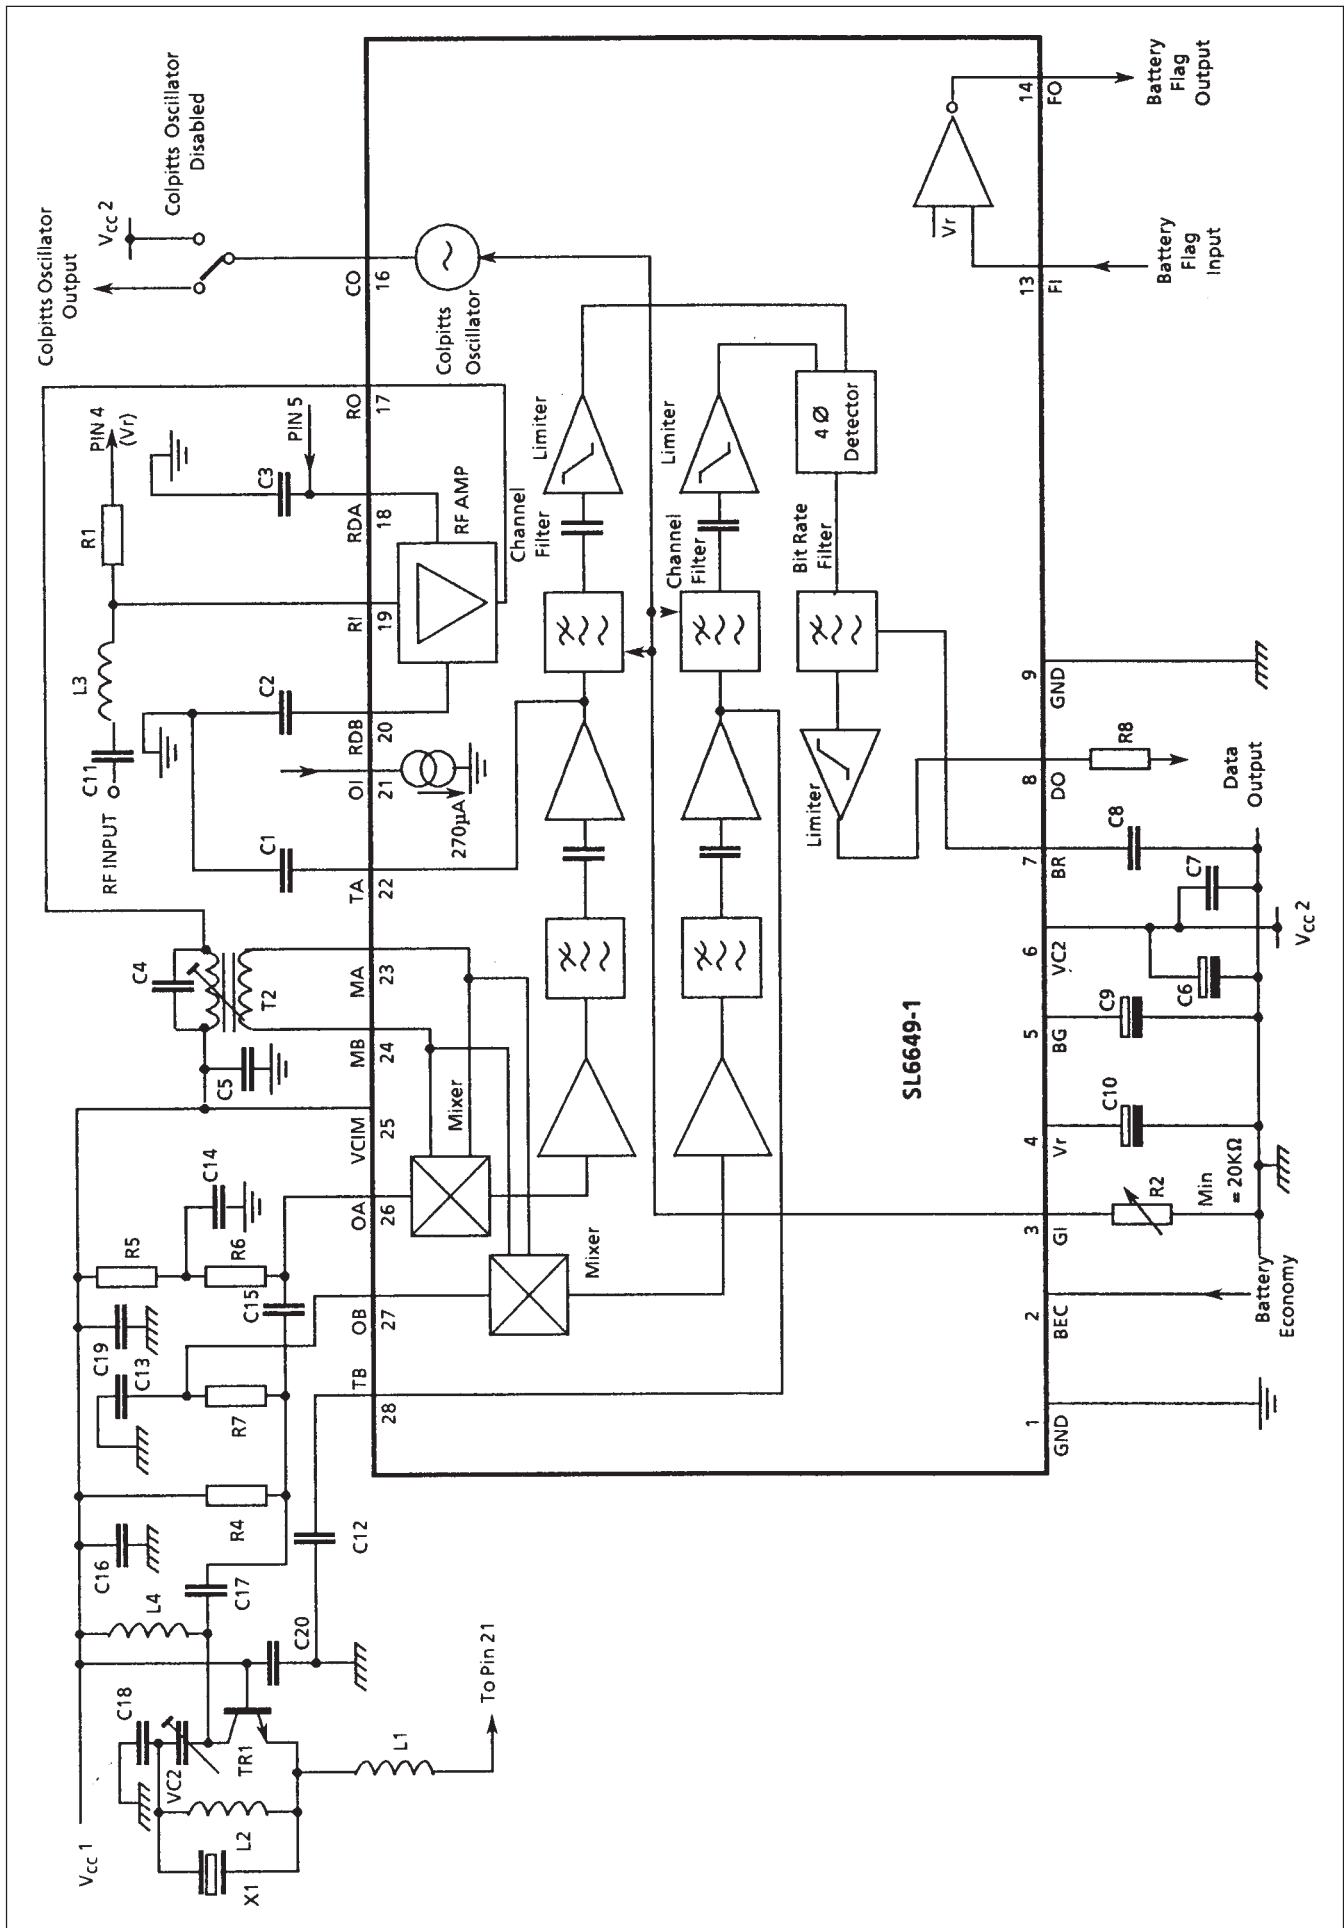

Figure 6: Block Diagram and Applications Circuit (for component values see next page)
**Measurement conditions (unless otherwise stated):** Applications circuit diagram Fig.6;  $V_{CC1} = 1.3\text{V}$ ;  $V_{CC2} = 2.3\text{V}$ ;  $T_{amb} = 25^{\circ}\text{C}$ ; Colpitts oscillator resistor = 270k $\Omega$ ; mixer input A and B phase balance = 180 $^{\circ}$ ; local oscillator input A and B phase balance = 90 $^{\circ}$ . Measurement methods as described by CEPT Res 2 specification.  $F_{IN} = 153\text{MHz}$  (512 baud).
COMPONENTS LIST FOR FIGURE 6
The values given in the components list for figure 6 are appropriate for frequencies nominally around 153MHz. In order to use the receiver at other frequencies it is necessary to change the capacitor C4 which is resonant with the transformer T1, and L2 and L4 in the oscillator circuit.